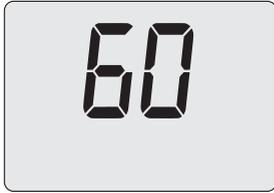

Figure 5.46
- Press 16 (Figure 5.43) to show the value of parameter P03 on the LCD display (Figure 5.46).